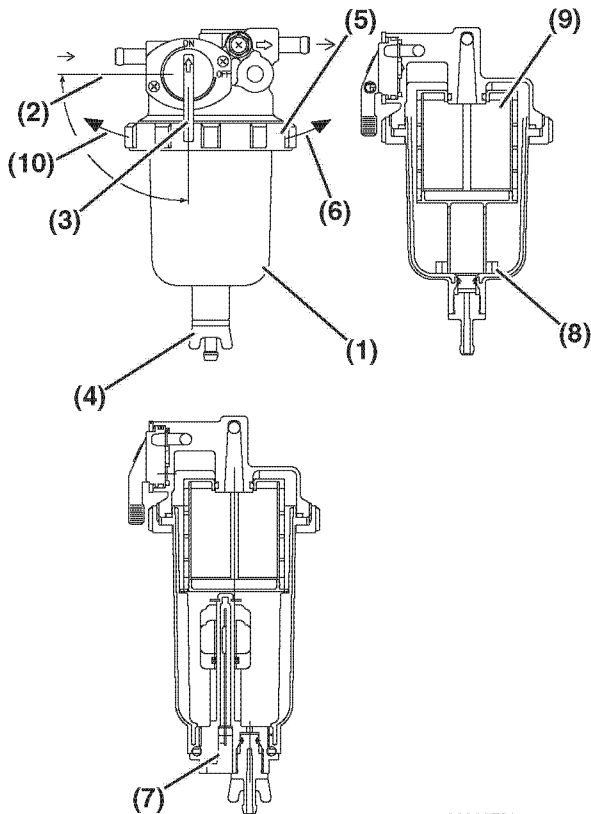

Figure 18
1. Position an approved container under the cup (**Figure 18, (1)**) of the fuel filter / water separator to collect the contaminants.
2. Close (**Figure 18, (2)**) the fuel cock (**Figure 18, (3)**).
3. Loosen the drain cock (**Figure 18, (4)**) and drain the contaminants. *See Drain Fuel Filter / Separator on page 94.*
4. Turn the retaining ring (**Figure 18, (5)**) to the left (**Figure 18, (10)**) and remove the cup (**Figure 18, (1)**). If equipped, disconnect the sensor wire (**Figure 18, (7)**) from the cup before removing the cup.
6. Remove the float ring (**Figure 18, (8)**) from the cup. Pour the contaminants into the container and dispose of it properly.
7. Clean the element (**Figure 18, (9)**) and inside cup. Replace the element if it is damaged.
11. Install the cup to the bracket by tightening the retaining ring to the right (**Figure 18, (6)**) to 11-15 ft-lb (15-20 N·m, 1.5-2.0 kfg/m).
13. Open the fuel cock (**Figure 18, (3)**).